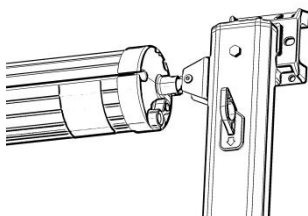

Figure E3
3. Uneven winding on both sides of the roll tube, one side unable to tighten: Check if the awning fabric is damaged or deformed, and replace the awning fabric. Alternatively, attach adjustment tape (to be ordered separately) to the edge of the roller tube on the side that cannot be fully tightened, to finely adjust the fabric winding amount and achieve balanced retraction on both sides. (Figure E3)